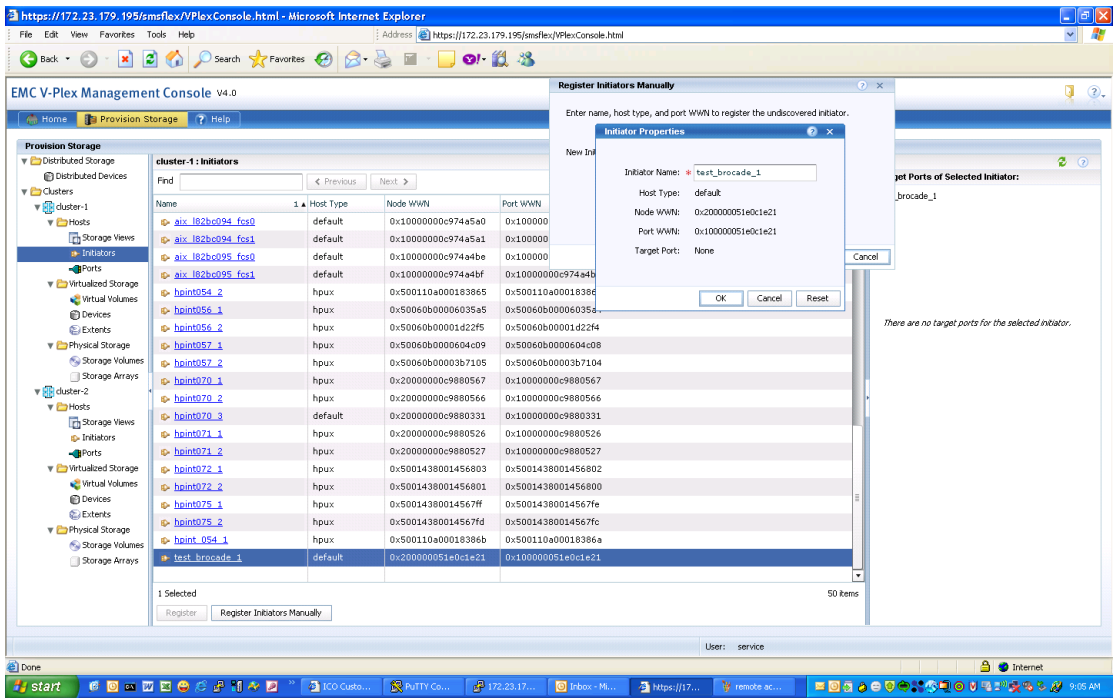

Figure 20 Register initiators
2. Registering initiators, as shown in Figure 20.